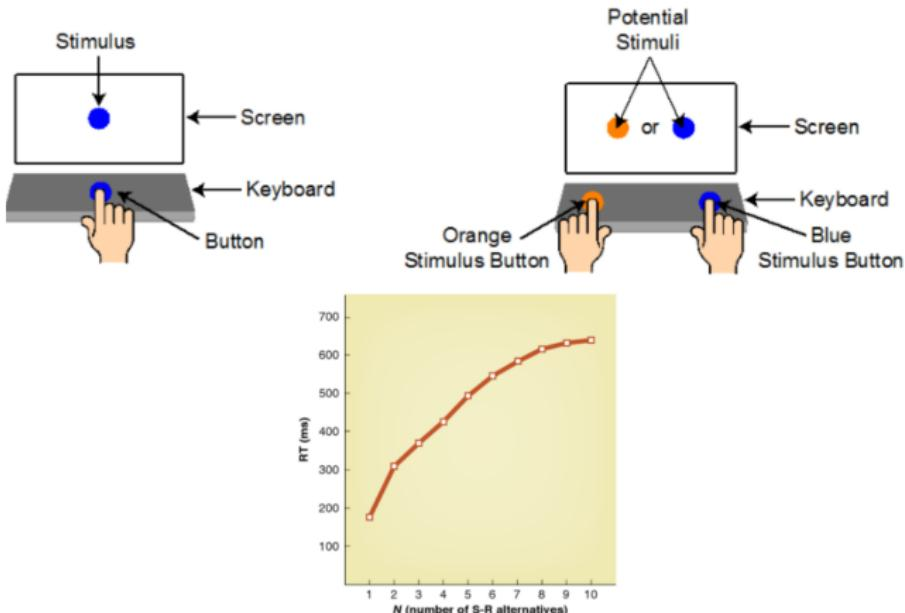

FIGURE 2.6 The relationship between the number of possible stimulus-response (S-R) alternatives and reaction time.
FIGURE 2.7 Hick's Law: The relation between choice RT and number of S-R alternatives (N) is replotted using Merkel's data from figure 2.6, with choice RT as a function of $\text{Log}_2(N)$.
FIGURE 2.7 Hick's Law: The relation between choice RT and number of S-R alternatives (N) is replotted using Merkel's data from figure 2.6, with choice RT as a function of $\log_2(N)$.